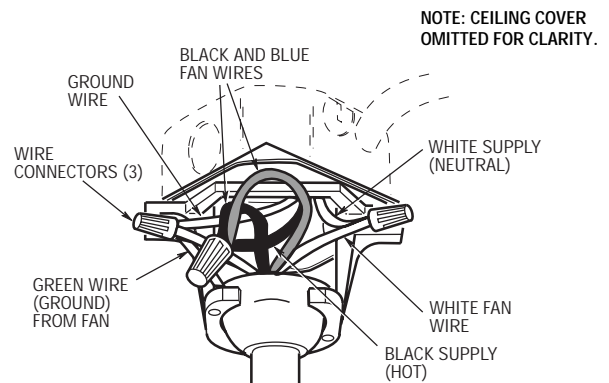

Figure 7
- 2. Connect the fan motor white wire to the supply white (neutral) wire using a wire connector (supplied) (Figure 7). Connect the fan motor black wire and blue wire to the supply black (hot) wire using a wire connector (supplied) (Figure 7). Your fan is now wired to be turned on and off from the fan switch. After connections have been made, turn leads upward and carefully push leads into the outlet box, with the white and green leads on one side of the outlet box and the black and blue leads on the other side of the outlet box.